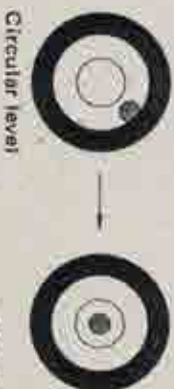

Fig. 4
- (8) Finally, slightly turn the levelling screws until the bubble is centred exactly within the centre circle. The instrument is now ready for sighting (Fig. 4).